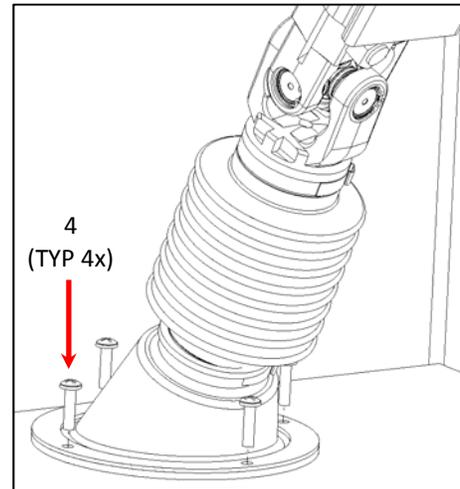

Fig. 5
9. Re-install floor boot seal with retaining ring with four screws. Slit in floor boot seal should be oriented toward front of bus. (See Fig. 5)